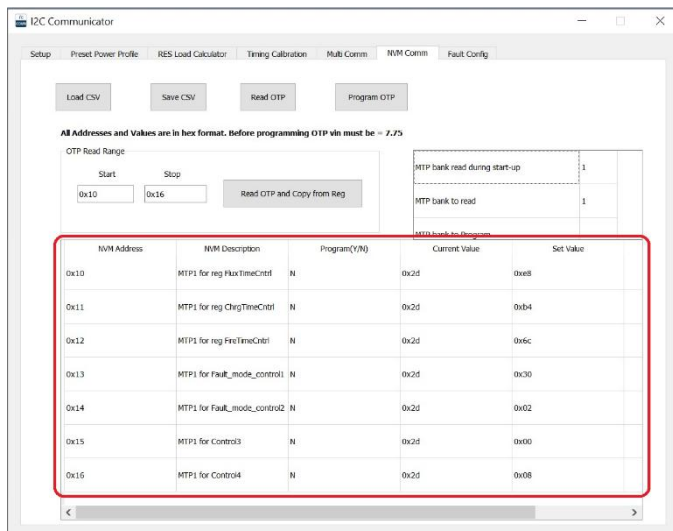
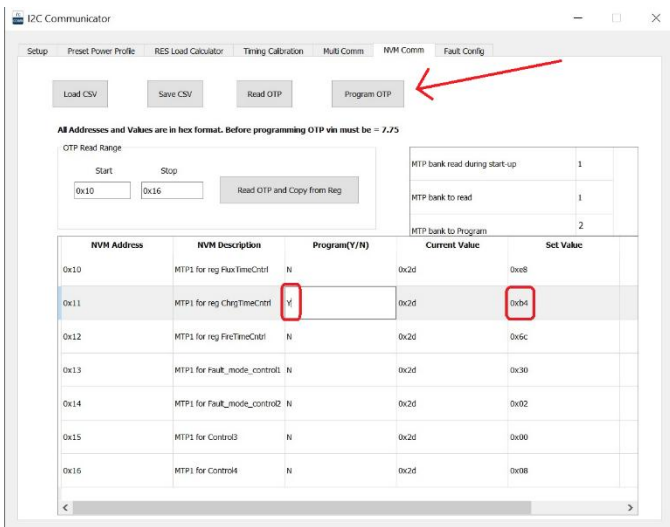

Fig. 4 GUI's NVM Comm screen showing the selected range of values from the OTP memory
Fig. 6 Example showing how to program 1 byte of NVM Bank 2
4. If you can successfully read the values from the selected range of the OTP memory, you should see a table of NVM memory addresses with their corresponding values as shown with a red box in Fig.4.
3. Once you select the OTP read range to include the memory byte of your choice and press "Read OTP and Copy from Reg" button, a table showing those memory block values should be displayed as previously shown in Fig. 4 (also in Fig.6 below).
4. Then change the “Program (Y/N)” column from “N” to “Y” and type in the new value that you want to set in “Set Value” column of the desired memory byte as shown with red boxes in Fig.6.
5. After that press the “Program OTP” button (shown with a red arrow in Fig.6), and that should change the current value to the set value in the selected memory byte (0x11 in this case).